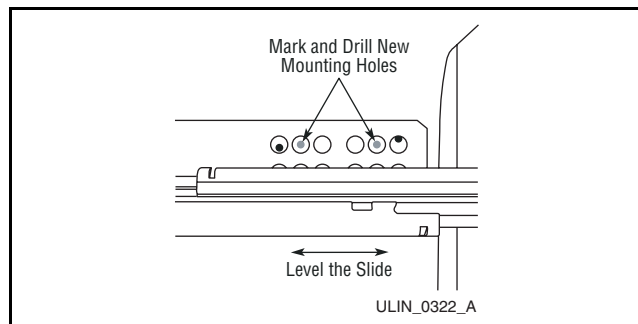

Figure 51
4. Mark new front drilling holes using a different set of mounting holes on the slide (**Figure 51**).